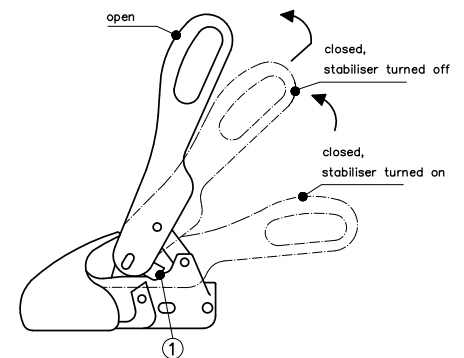

Fig. 6: Switching off stabiliser
Pull the operating lever up slowly to deactivate the stabiliser (Fig. 6).
Disconnect lighting plug and contact breaking cable. Pull the operating lever upwards slowly in order to switch off the stabiliser (Fig. 6). Pull the operating lever back and simultaneously lift again (Fig. 6) so that the side securing plates (1) swing over the securing surfaces and the opera-